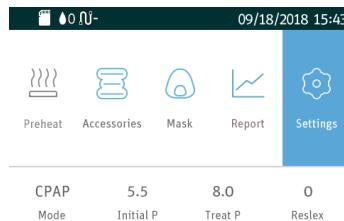

Fig. 15-1
- (1) Insert the Cellular Module into the device and turn on the device. The device screen displays the Main Screen shown in Fig. 15-1.